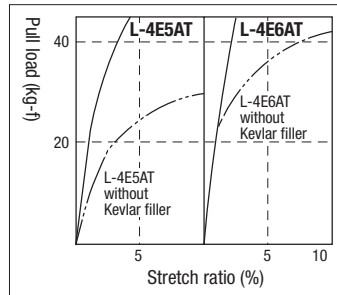

Fig. 1 Cable Pull Load and Stretch Ratio
- The Kevlar\* cable filler prevents damage due to excess stretching and stress that may occur when pulling the cable through conduits. <Fig. 1>